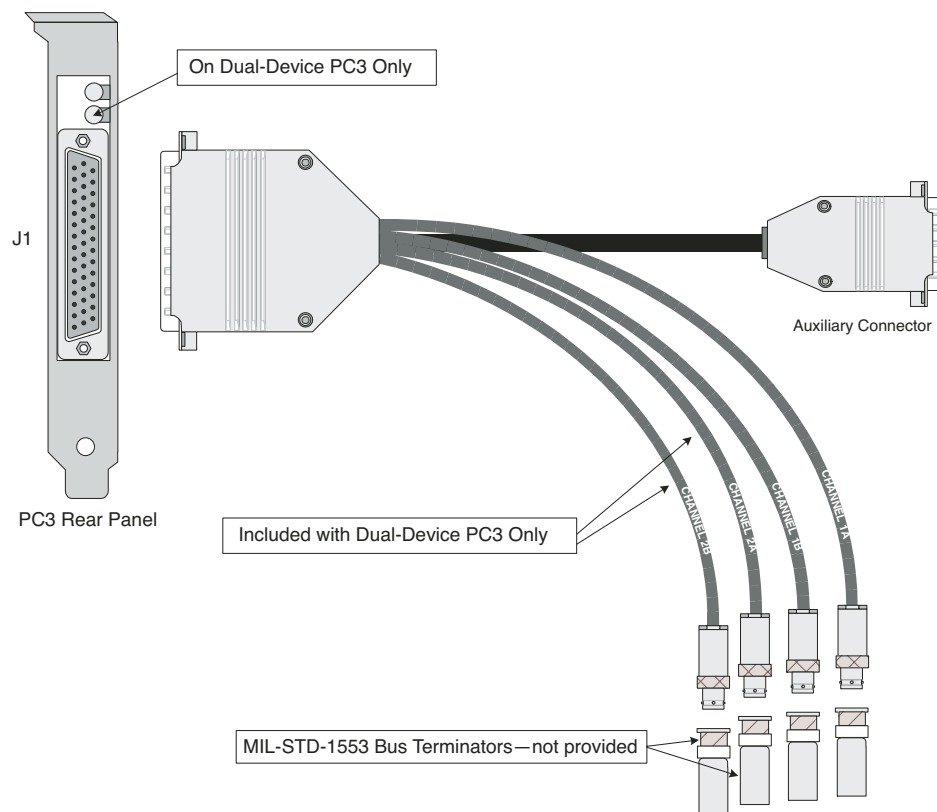

Figure 4.5.1: Attaching the Cable Assembly to the PC3
1. Attach the cable assembly to the J1 connector on the rear panel of the card as illustrated in Figure 4.5.1.
2. Attach 1553 bus terminators to each Channel lead on the cable assembly, as illustrated in Figure 4.5.1.